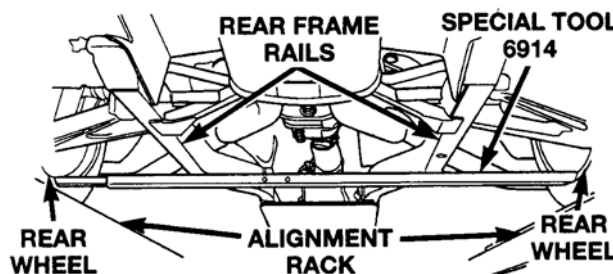

Figure 13
- a. Install front and rear Vehicle Height Checking Fixture (Special Tool #6914) at the base of both inner flanges of the front and rear wheels as shown in Figure 13.